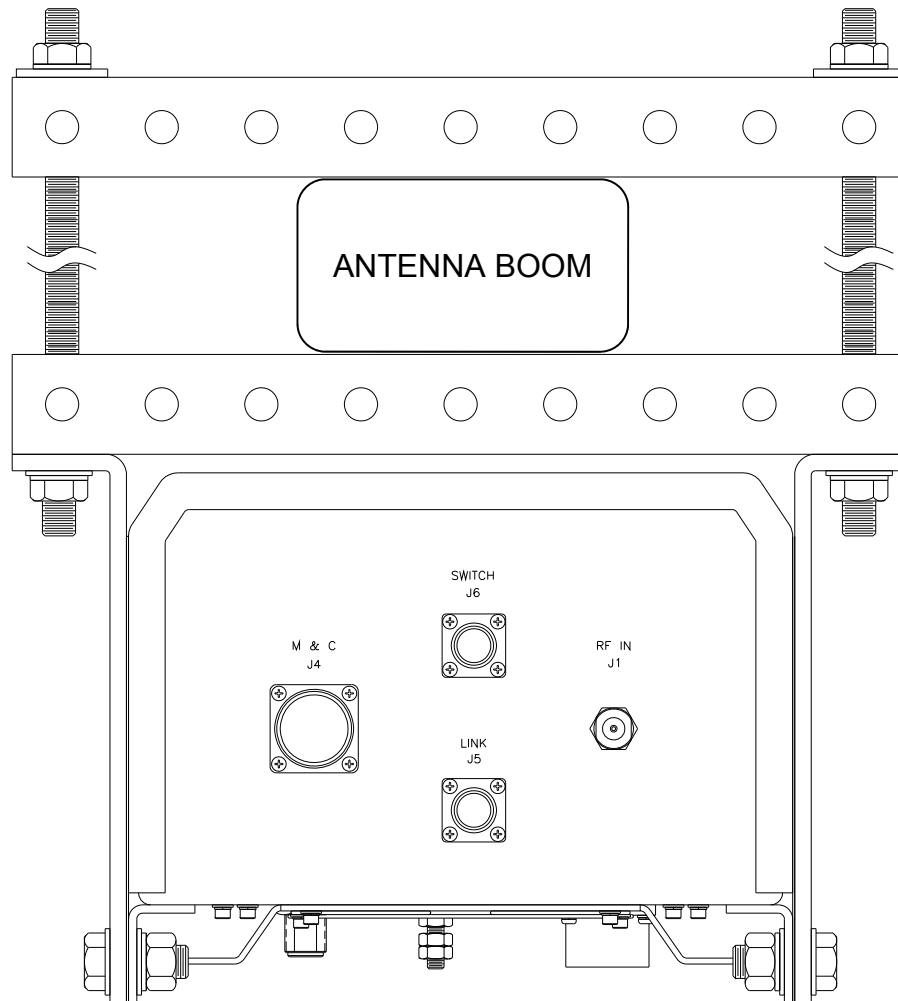

Figure 2-8: Compact Outdoor SSPA Mounting Completed
3. Bring the unit up tight under the boom (with the long axes parallel), sliding the All-Thread studs past the sides of the boom to show above the boom top. Place the remaining pieces of Uni-strut (open channel down) across the boom, onto the protruding All-Thread stud ends. Secure firmly with a flat washer and 1/2" nut on each of the four All-Thread stud ends. Looking from the end of the boom, the mounted unit should look as shown in **Figure 2-8**.